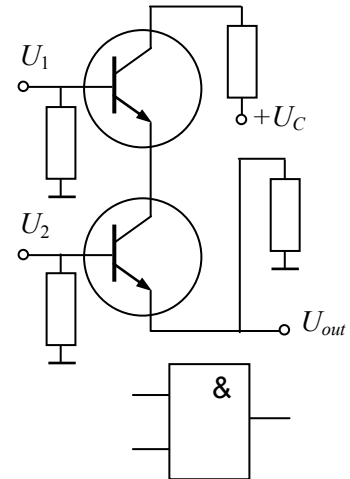
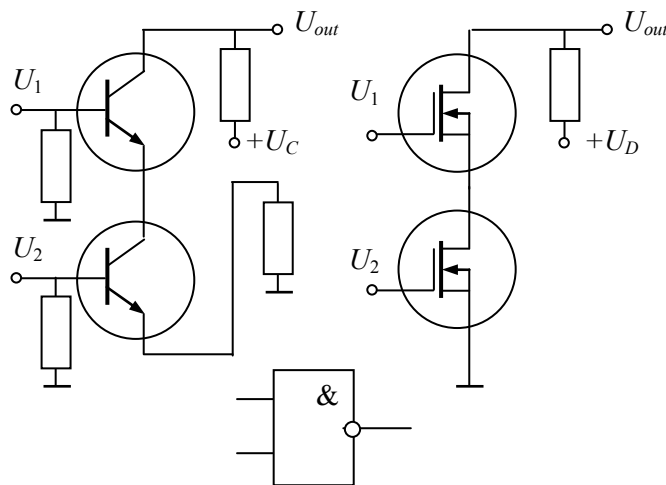

Fig. 2.62
Fig. 2.63
**AND gate.** The circuit given in Fig. 2.62 is called an *AND gate*. This component has a high output only when all inputs are high. To get the output signal, both input signals should be presented simultaneously. The emitter of the upper transistor is coupled to the collector of the lower transistor. When the transistors are not open together, there is no current flow across the transistors and the output is empty. After the input signals come, each transistor becomes forward biased. Therefore, the collector's currents flow to the output. The *AND* circuit solves the logical equation
**NAND gate.** This component is a *NOT AND*, or inverted *AND* gate. Its output is low only when all inputs are high. One of the *NAND gates* shown in Fig. 2.63 is the same circuit as in Fig. 2.62 with other output. Another circuit is built on the MOSFET transistors.